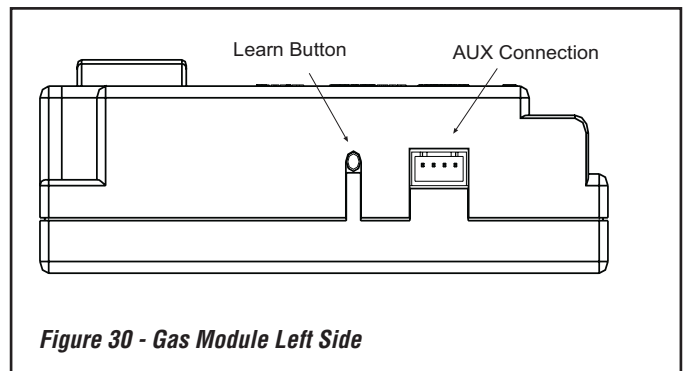

Figure 30 - Gas Module Left Side
- To program the module (make sure the system has power), locate the learn button (*Figure 30*) on the module. Locate the metal shield that is covering the module and remove the screw on top. Use a small thin object like a paper clip (not sharp points) to press and release the learn button. There will be a beep sound from the module. Then press any button on the remote transmitter. Once the module's internal receiver accepts the transmitter code, there will be a series of confirming beeps.